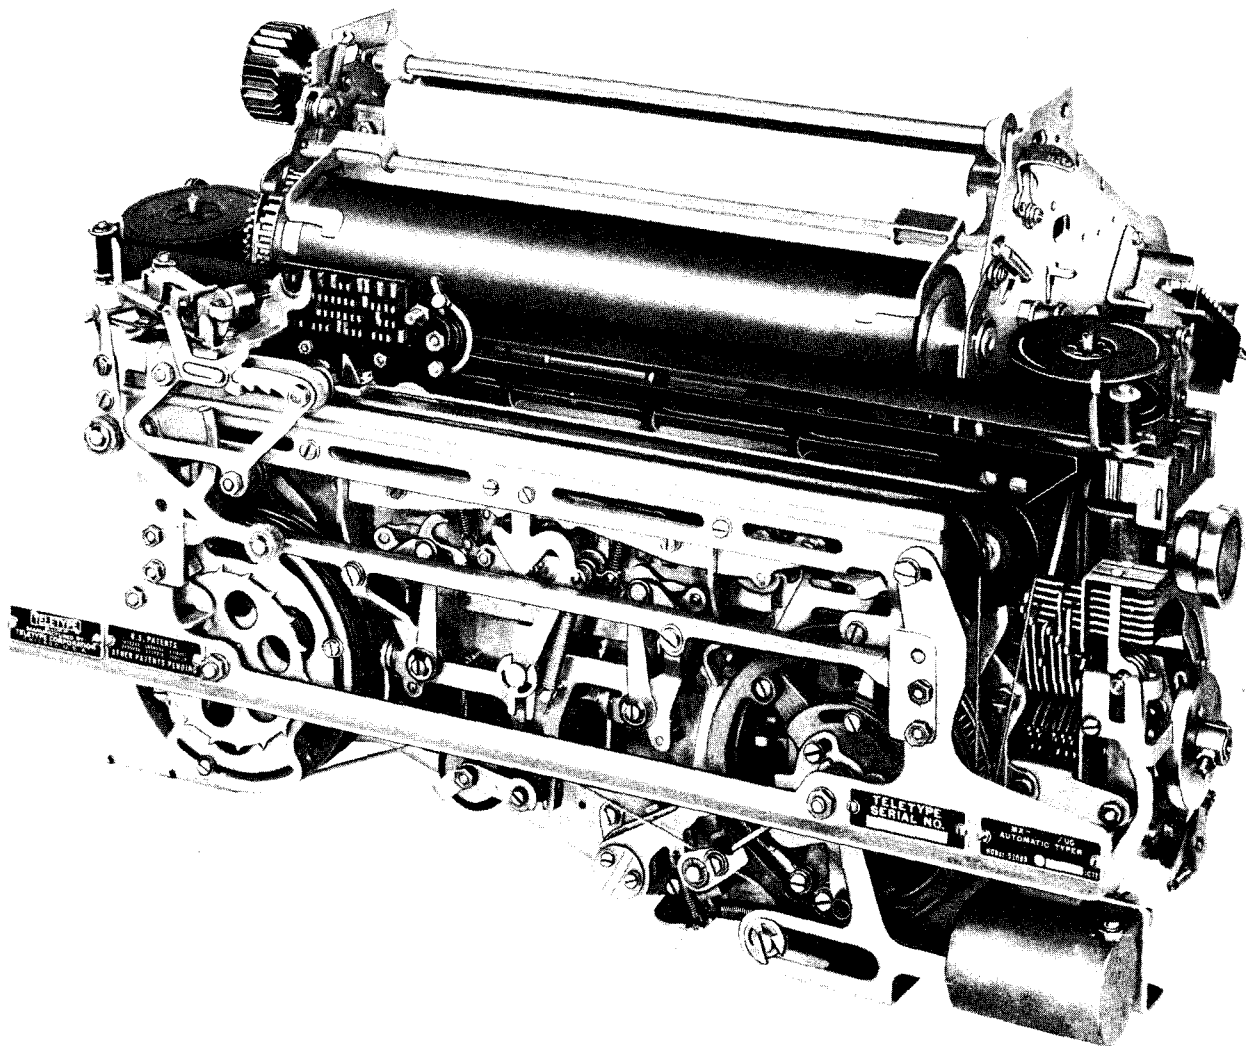

Figure 1-4. Automatic Typewriter MX-1115A/UG, Front View
b. AUTOMATIC TYPER MX-1115A/UG and MX-1422A/UG. (See figures 1-4 and 1-5.)
(1) The Automatic Typer incorporates the necessary electrical and mechanical features for translating the code signals into mechanical action in order to record the message and perform the usual functions incident thereto.
(2) Code signals are applied to a two-coil magnet associated with selecting mechanism which interprets the signal and controls the motions involved in typing a character or performing a required function. Means is provided for orienting the selector to the received signal. The AC Motor is geared to the main shaft of the Automatic Typer which, in turn, extends motion to the keyboard mechanism. The typing and various functional sections of the Automatic Typer are activated by individual clutches that completely disengage at the termination of each operating cycle and thus reduce the motor load to the minimum when idling.